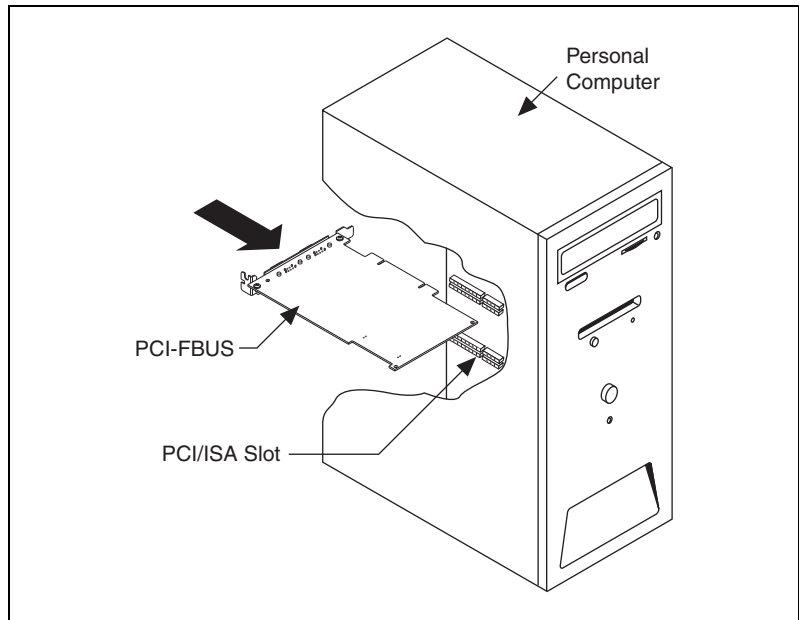

Figure 2-1. Installing the PCI-FBUS Card
4. As shown in Figure 2-1, insert the PCI-FBUS card into any unused PCI slot with the Fieldbus connector protruding from the opening on the back panel. Make sure all pins are inserted an equal depth into the connector. Although it might be a tight fit, do *not* force the card into place.